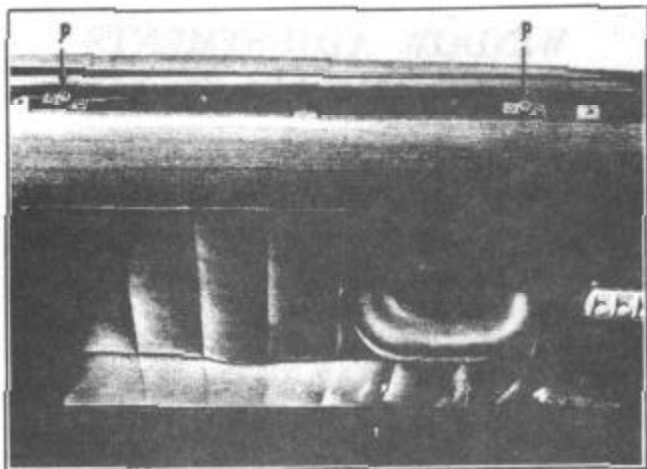

FIGURE 180
3. The adjustable window stops shown at (P), Figure 180, which are accessible when the door garnish moulding is removed, are for the purpose of making minor adjustments of the door window travel to assure full contact with the side rail weatherstrip.